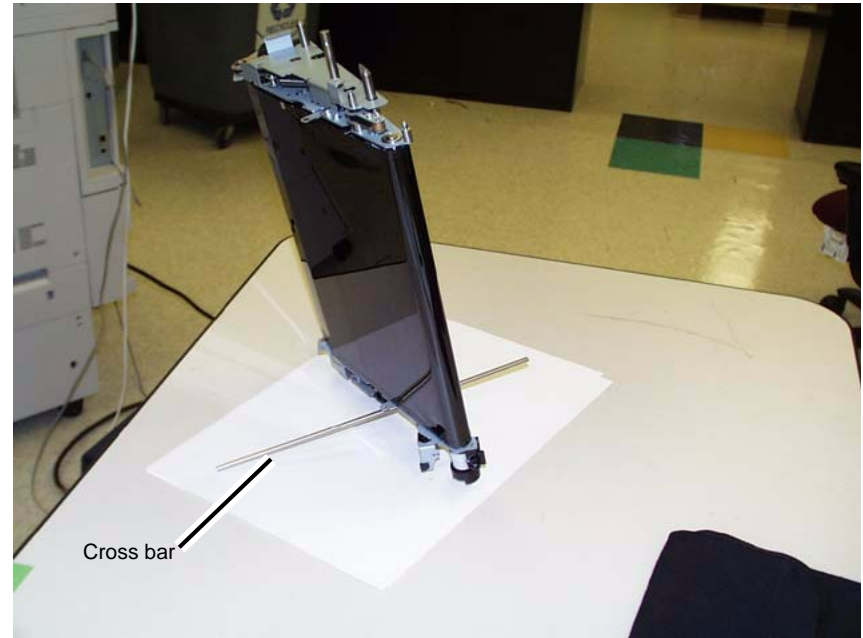

Figure 4 Using the cross bar as a foot
8. Use the cross bar as a foot by inserting it through the holes in the IBT Module frame and stand the Module on its end as shown. (Figure 4)